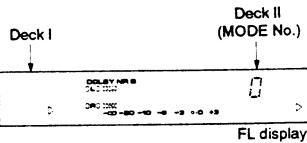

Fig. 4-1 FL display example 1
- To enter the test mode, set both DECK I and DECK II into the STOP mode and press the TIME/COUNT key of DECK I. RESET key of DECK I and PAUSE key of DECK II all together. (Refer to Fig. 4-1)